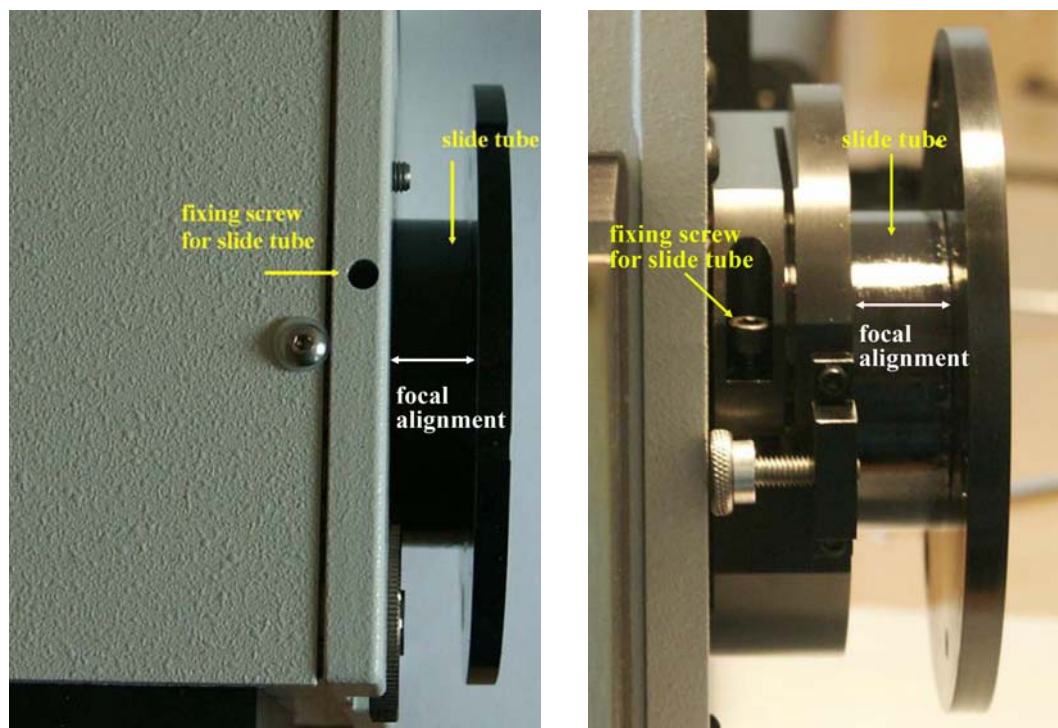

Figure 101. Focal Alignment; left: 500 mm Spectrograph, right: 750 mm Spectrograph
3. The array detector mounting flange has a sliding tube, which fits inside the front plate of the spectrograph. As shown in picture Figure 101, loosen the fixing screw of the slide tube and slowly slide the array detector IN or OUT until the sharpest image is achieved or the sharpest line is achieved.